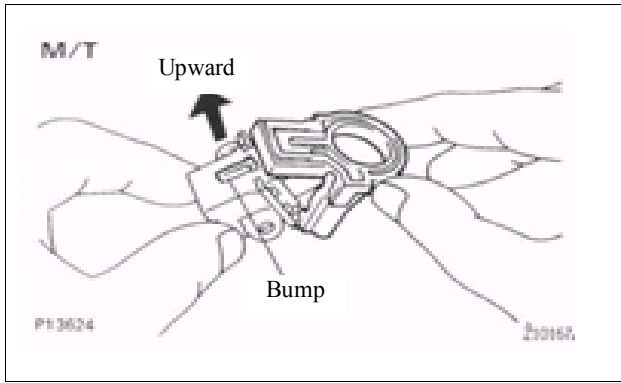

Figure 441
- Put the IC regulator and the brush holder together horizontally (see Fig. 441).